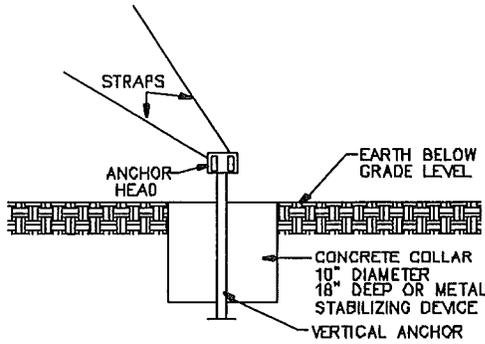

FIGURE 76
3. IF ANCHOR IS INSERTED VERTICALLY A CONCRETE COLLAR OR STABILIZING DEVICE MUST BE USED AT THE GROUND LINE. SEE FIG. 76 & 77.
4. EACH OF THE STRAPS AND CONNECTIONS TO THE I-BEAM MUST HAVE AN ULTIMATE STRENGTH OF 4725 LBS. SEE FIG. 76 & 77.